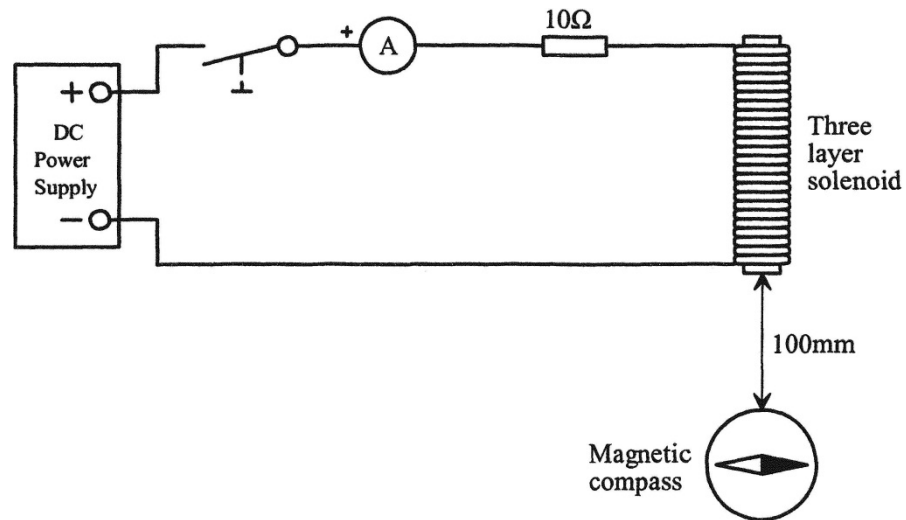

Figure 2
1. Connect the circuit as shown in Figure 2. **Note:** Be sure to connect the coil so the start of the coil is positive.